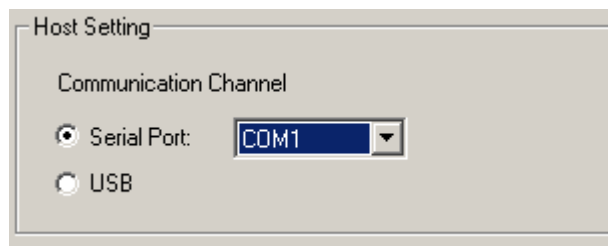

Figure 2-2 Selecting a UART Connection
4. Select the COM port that your PC will use (Figure 2-2).